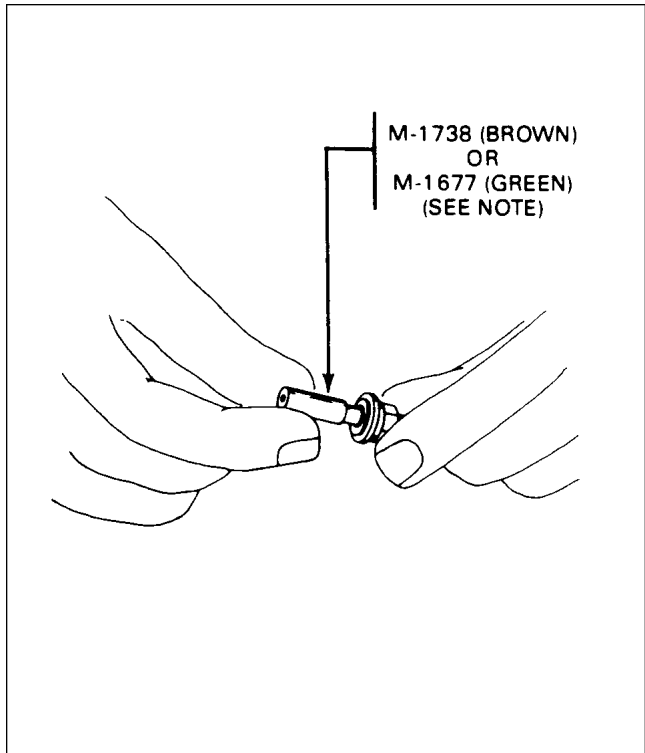

Figure 74-26. Installation of Insulator Sleeve
- n. On magneto end of wire, place M-1738 insulator sleeve (brown, 0.75 inch long) over silicone insulation. On spark plug end of wire, use green M-1677 insulator sleeve. Refer to Figure 74-26.